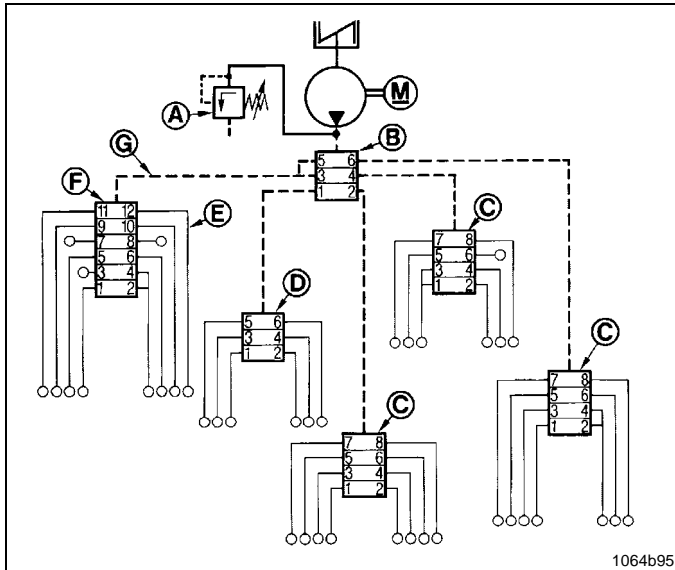

Fig. 47 Example of a lubrication system
- ➔ Loosen all high pressure hose connections G one after the other from the main metering device (B, Fig. 47) leading to the secondary metering devices. If f. ex. grease or oil emerges under pressure from outlet 1 of main metering device B, the blockage will be found in the lubrication circuit of the secondary metering device D.